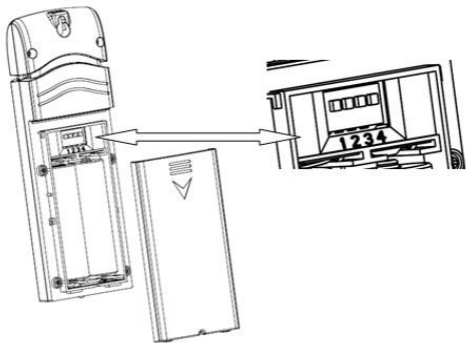

Figure 3: Battery installation
1. Remove the battery door on the back of the transmitter(s) by sliding down the battery door, as shown in Figure 3 .
**Temperature Units:** To change the transmitter display units of temperature measure ( $^{\circ}\text{F}$  vs.  $^{\circ}\text{C}$ ), change Dip Switch 4, as referenced in Figure 3.